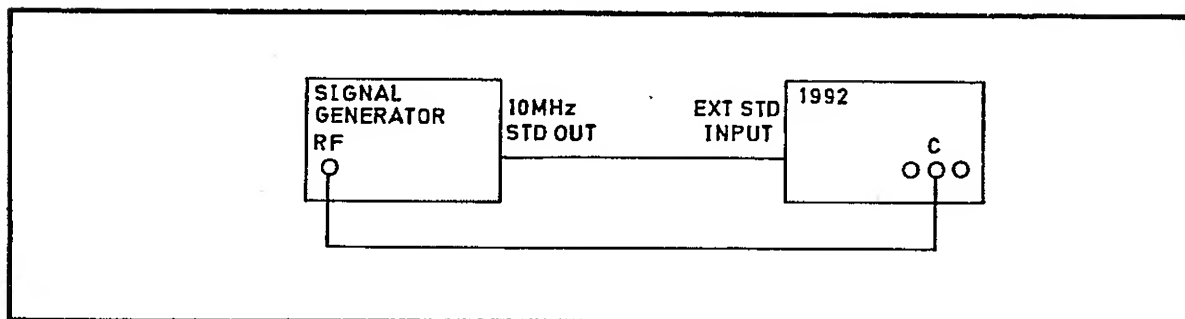

Fig 7.19 Connections for Channel C Sensitivity PVP
- 51 (1) Connect the test equipment as shown in Fig 7.19.
- (2) Select FREQ C.
- (3) Set the signal generator output to the frequencies shown in Table 7.8 in turn. Set the 1991/92 resolution to the corresponding value.
- (4) At each frequency, determine the minimum input level to the 1991/92 which gives stable counting. Verify that this is not more than the level shown in the table.
- (5) Disconnect the test equipment.